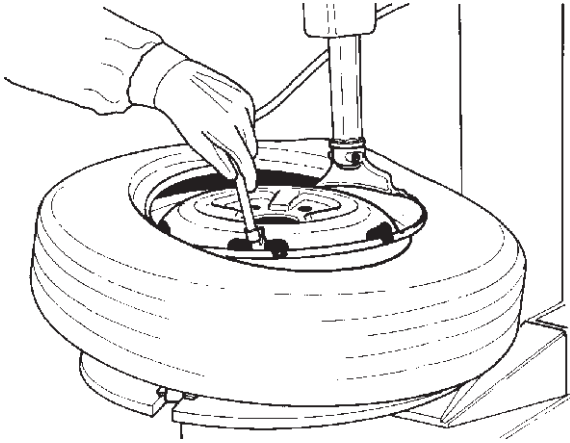

Fig. 25
D. Mount the first bead as described in section 4.3.B. Put the tube inside the tire and connect the inflation air line to the tube valve to hold the tube in place. (Fig. 25). Mount the top bead following the directions above.